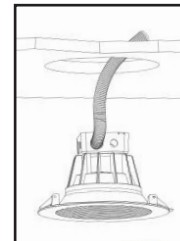

FIG. 2
2. Cut a corresponding whole in ceiling. (FIG. 2)
3. When running the supply wire(s), allow an additional 18 inches of wire at each installation in order to make the electrical connections on the room side of the ceiling hole. (FIG. 2)